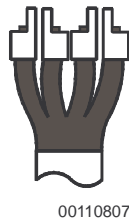

**Figure 5 Terminating Braid with Two Lugs**
- b. Insert each part of the braid into a terminal lug so that the terminal lugs are back-to-back and crimp as shown in Figure 5.